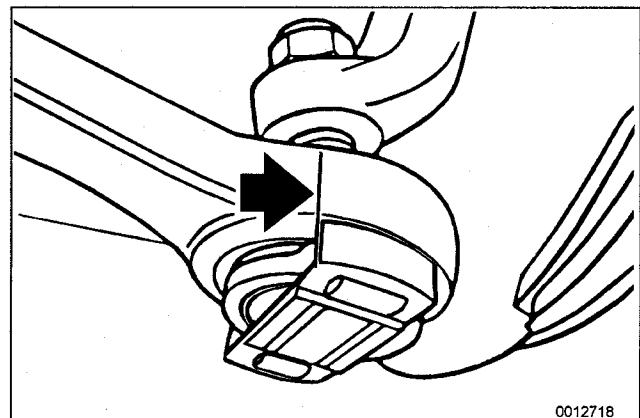

Fig. 10. Mark installed position of ball joint guide to control arm (arrow).
4. Mark position of ball joint guide to control arm. See Fig. 10.